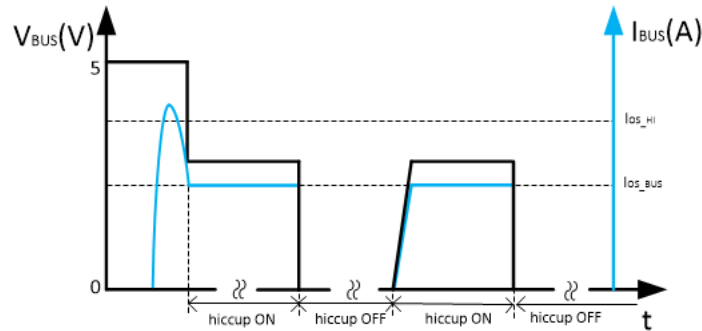

Figure 10-13. BUS Overcurrent Protection: Two-Level Current Limit
- The third condition is the load current increases above the I_{OS_HI} setting. In this case, the USB power switch current limit threshold is set back to the primary current limit, I_{OS_BUS} , immediately. If the load still demands a current greater than I_{OS_BUS} , the USB output voltage decreases to $I_{OS_BUS} \times R_{LOAD}$ for a resistive load, which is shown in Figure 10-13. If the overcurrent limit condition lasts longer than 4.1 ms, the corresponding USB channel enters hiccup mode with 524 ms of off-time and 4.1 ms of on-time. Another USB channel still works normally.